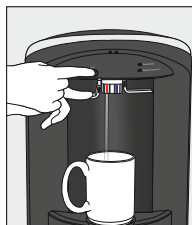

Figure 12
2. Push the **RED safety button** in, and depress (push downwards) the hot water lever to start hot water flow (Figure 12)